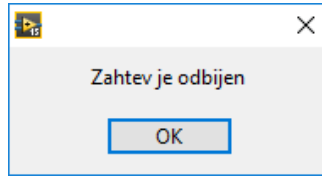

Figure 3.2
2) If the request is denied (Figure 3.2)